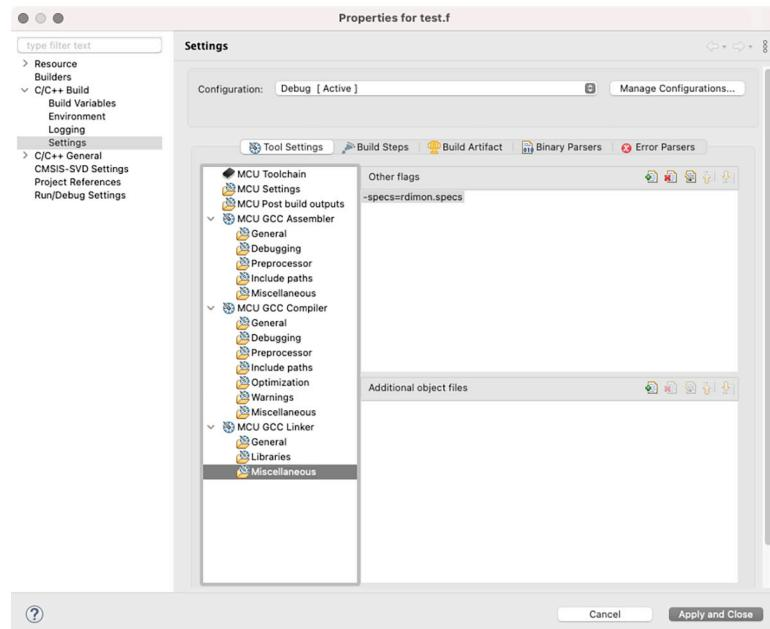

Figure 24.33: Configure the project to link add rdimon.specs flag
4. Update GCC Linker project configuration adding “-specs=rdimon.specs” flag In Miscellaneous as shown in **Figure 24.33**.